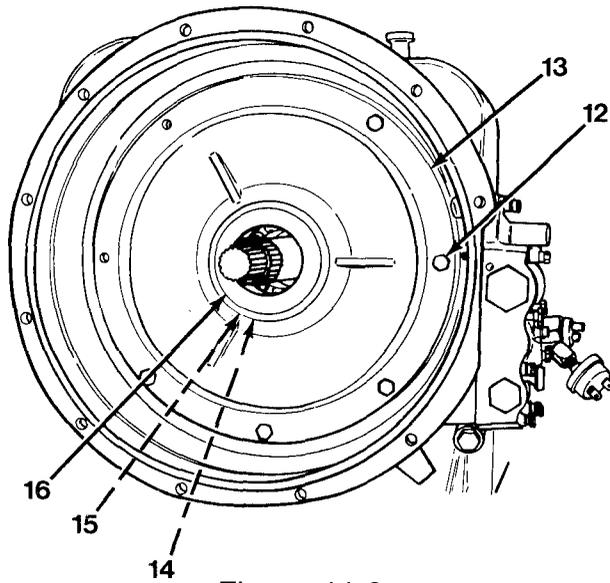
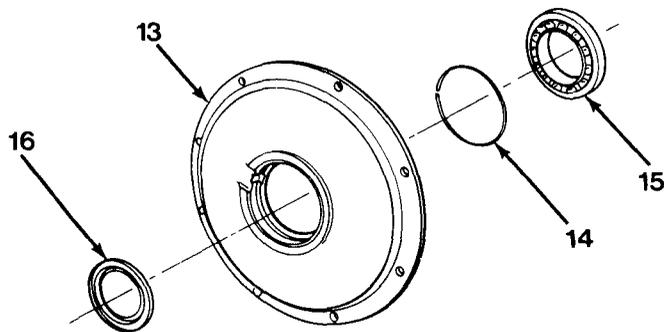
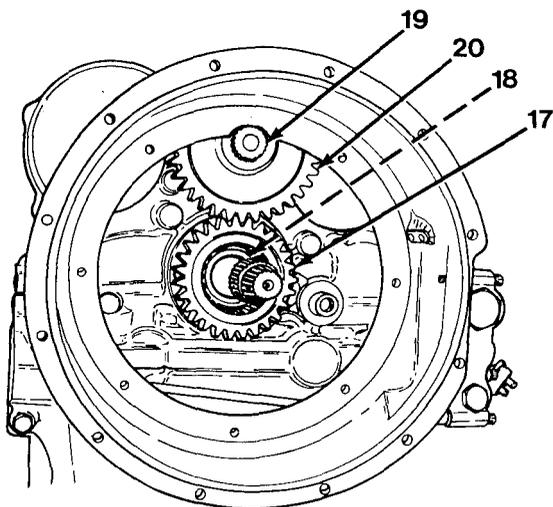
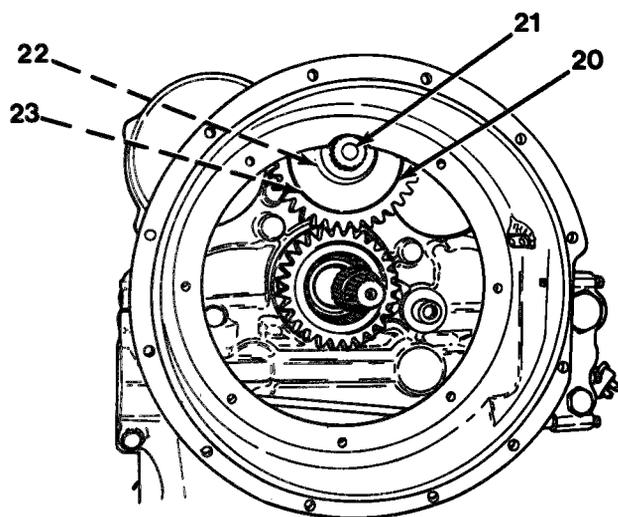

Figure 11-3
Figure 11-4
Figure 11-5
Figure 11-6
10. Remove seven capscrews (12) securing bearing retainer (13, Figure 11-3).
11. Remove bearing retainer (13) with snap ring (14), drive bearing (15) and oil seal (16) together as an assembly.
12. Using snap ring pliers, expand snap ring (14, Figure 11-4).
13. Using a hammer and punch, remove drive bearing (15) and oil seal (16), by driving out of bearing retainer (13).
14. Remove snap ring (14) from bearing retainer (13).
15. Remove hub impeller gear (17) and thrust washer (18, Figure 11-5).
16. Remove snap ring (19) securing ground driven pump gear (20).
17. Using a bearing driver and hammer, remove ground driven pump shaft (21), outside bearing (22), cover (23) and ground driven pump gear (20, Figure 11-6).